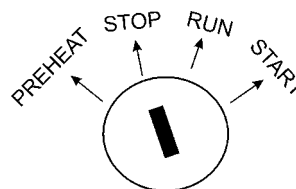

Figure 70. Engine Starter Switch (STOP)
6. If the engine is equipped with the engine throttle lever, turn the key to "STOP" position (Figure 70).